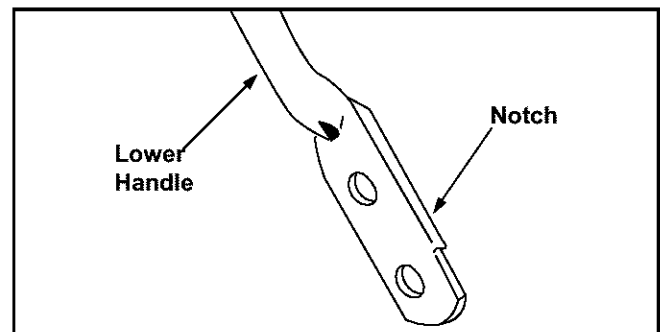

Figure 8
- Turn the lower handle around so the notches on the bottom of lower handle are facing forward. See Figure 8.